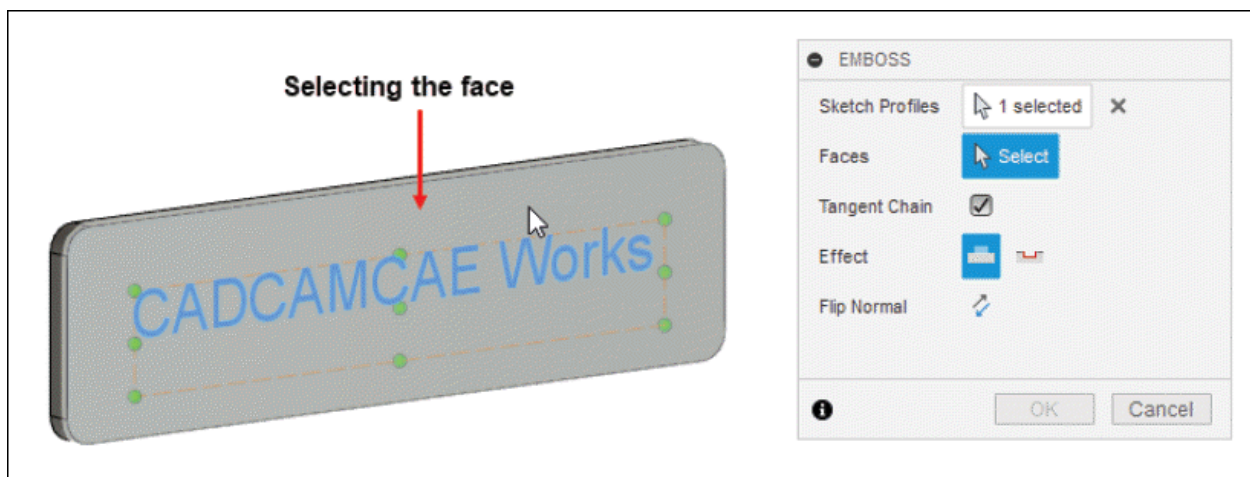
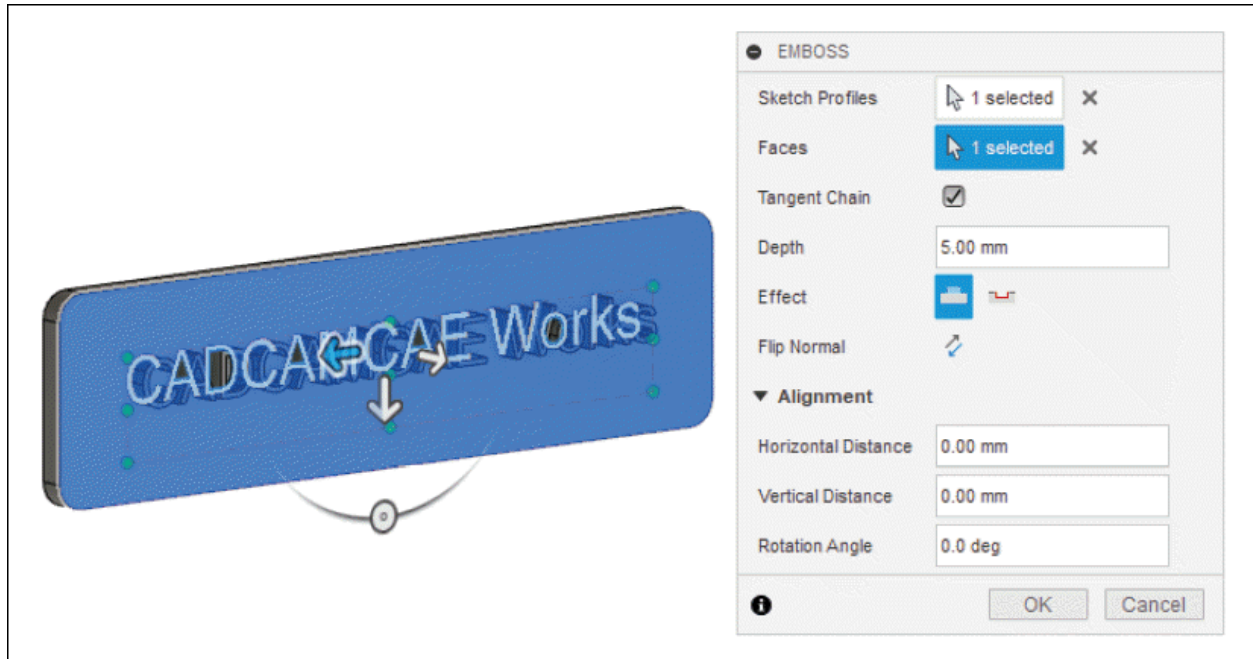

Figure-37. Selecting the face
Figure-38. Updated EMBOSS dialog box
- Click on the **Select** button of **Faces** section and select the face on a solid body on which the sketch profile is to be embossed; refer to Figure-37. The updated **EMBOSS** dialog box along with the preview of emboss will be displayed; refer to Figure-38.